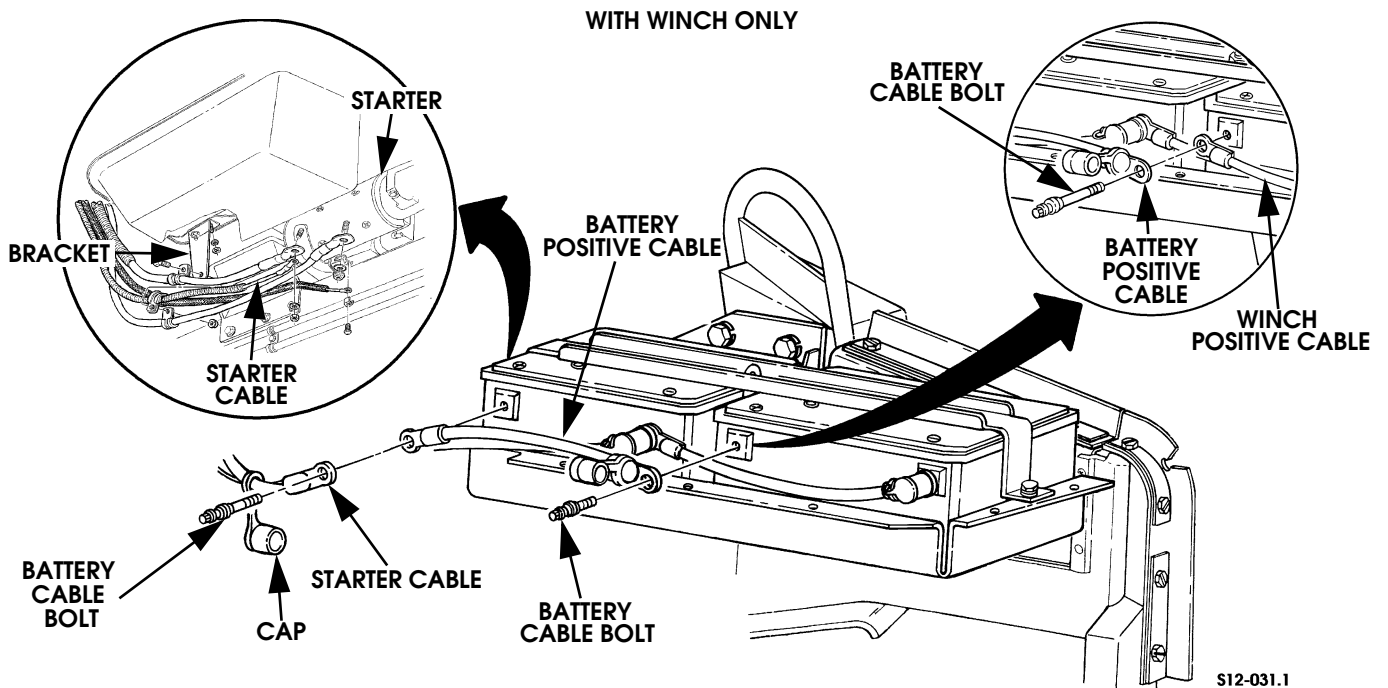

Figure 12-29: Battery Positive Cable Connections
2. Remove caps from battery positive cable(s) (Figure 12-29).
4. Connect winch cable to battery positive post (Figure 12-29).